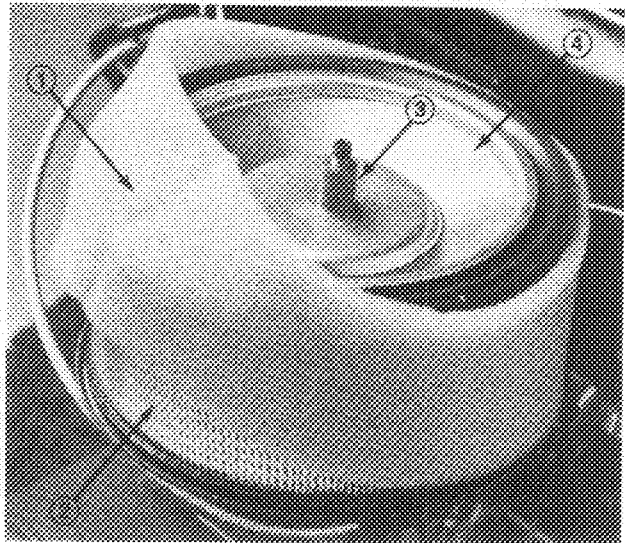

Figure 19
2. Remove foam pre-cleaner by sliding it off the paper element (Fig. 19).